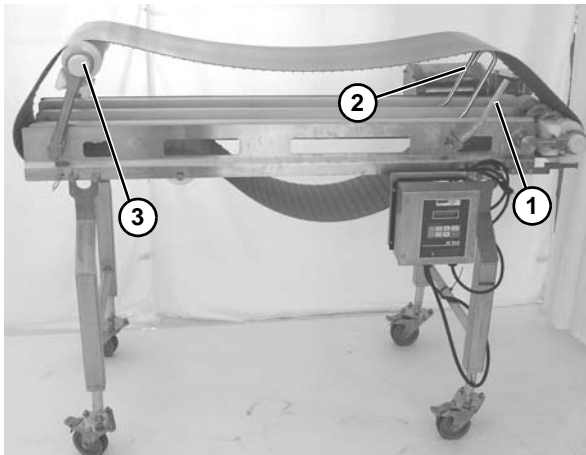

Figure 40
2. Use the lifter handle (Figure 40, item 1) to raise the lifters (Figure 40, item 2) and raise the tip up tail (Figure 40, item 3).